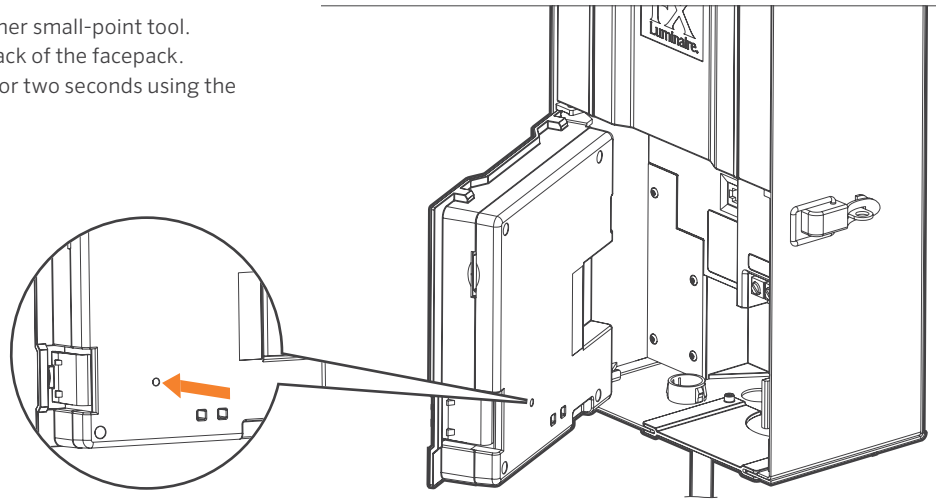

Figure 36: Reset button
3. Navigate to the **Clear** option and press the scroll wheel (Figure 36).